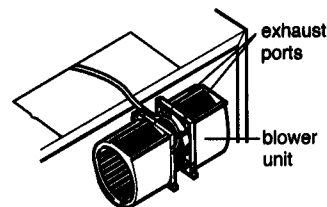

Figure 14
4. Rotate the unit so that the exhaust ports face the upper of the cabinet. See Figure 14. When you insert blower unit, blower wire must be like Figure 14.